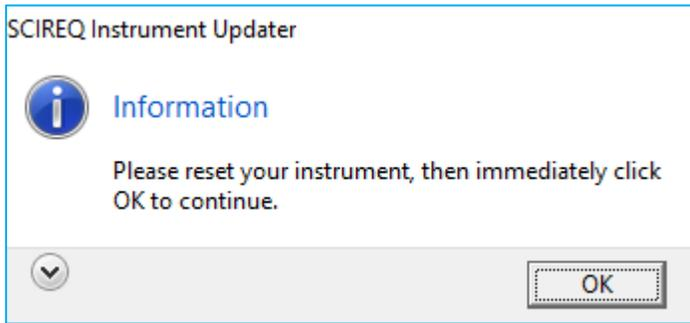

Figure 3-3. Prompt to Restart Instrument prior to Continuing
- » Prior to continuing, the user is prompted to reset the instrument (Figure 3-3). Be sure to re-start the inExpose by unplugging and re-plugging the power supply before continuing
- » If unsure if the update completed successfully, please repeat the steps above a second time. Ensuring that the inExpose or CSR is rebooted within 5 seconds of pressing *OK* to the prompt in Figure 3-3